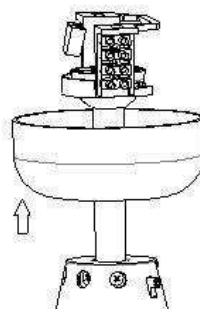

Fig.3
1. Carefully lift the fan and seat the down rod ball assembly into the spacing allocated in the mounting bracket and lock the ball into place. Fig. 3